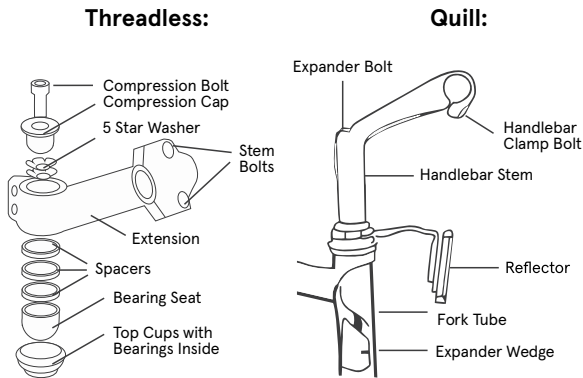

Fig. 12
Step 4: Handlebar & Handlebar Stem Assembly (Refer to Figs. 12 & 13)
Your e-bike may be fitted with an adjustable stem, a standard quill stem, or a threadless stem (**Refer to Fig. 12**). Regardless of stem type, always check that all the bolts are tight before riding. Respect the stem type and follow the instruction below: